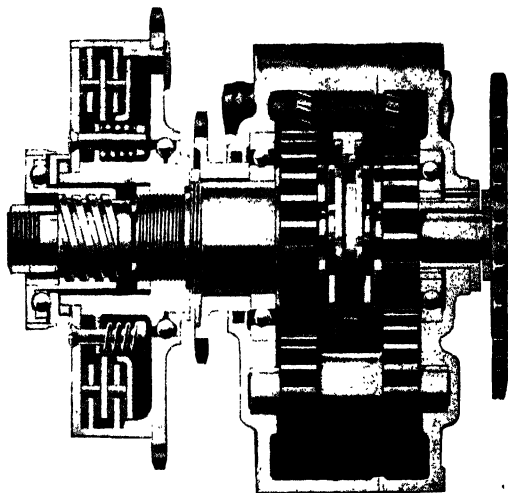

Fig. 46. Dayton Multiple-Disc Clutch and Sliding-Gear, Two-Speed Transmission
*Two-Speed Gear.* Fig. 46 shows a Dayton sliding ring two-speed transmission fitted with a multiple-disc clutch, shown in section. This clutch is operated by a lever or pedal and, when in engagement, enables the sprocket at the left to drive through the gear mechanism to the middle, or main drive sprocket. If the small cam ring, shown in the center of the gearset, is moved to the left by a lever, the dogs engage a shaft from the left sprocket direct to the main sprocket, so that one is driving on high gear. On releasing the clutch, the cam